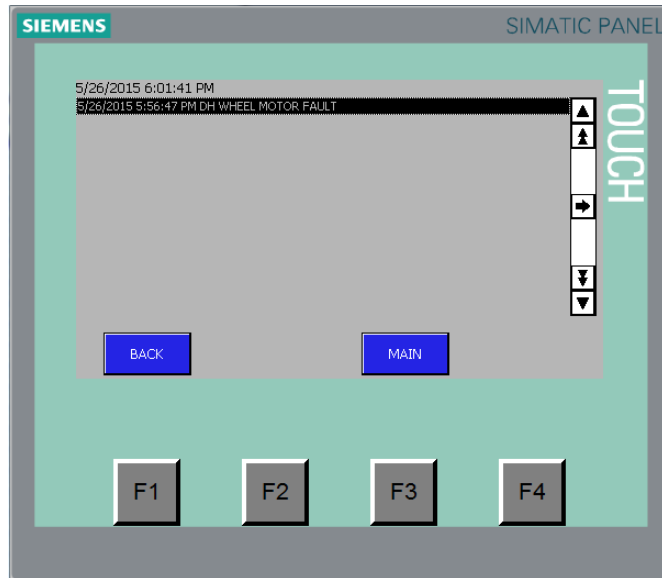

Figure 7-3
4. To see a history of past alarm conditions, press the ALARMS button followed by ALARM HISTORY. See Figure 7-3.